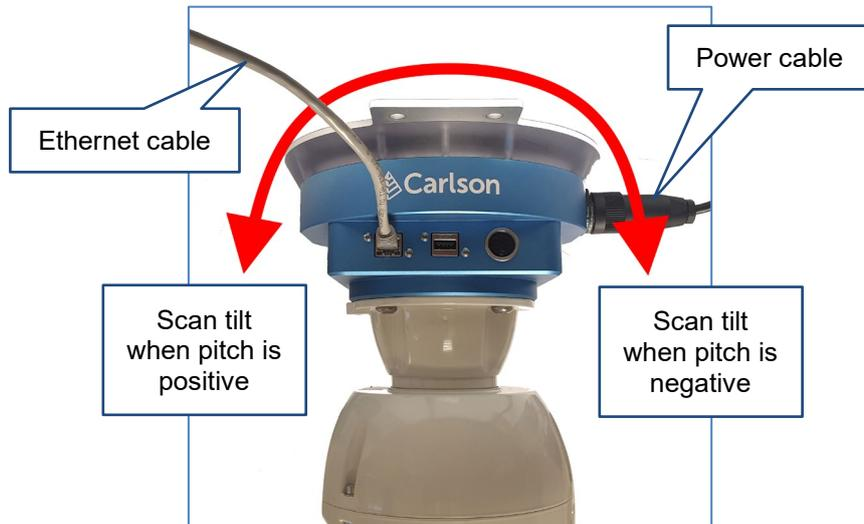

Figure 72 Pitch offset in relation to the FiX1 hardware
- **Pitch offset:** the mounting plate pitch inclination, offset from horizontal. The roll is related to the FiX1 hardware (see Figure 72)